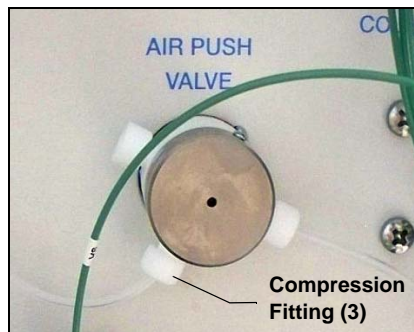

Figure 5-15. Compression Fittings
3. Remove the three white compression fittings on the air push valve (see Figure 5-15).